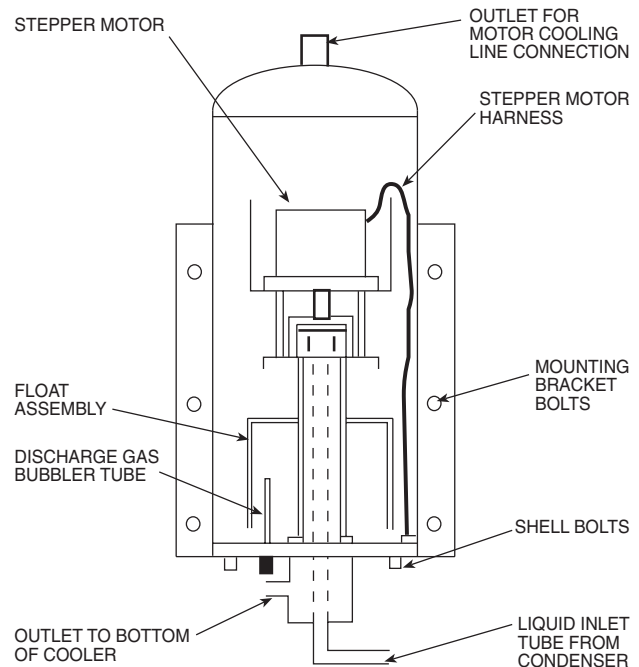

Fig. 14 — 30GX,HX Cutaway View of Economizer Assembly
INSPECTING/OPENING ECONOMIZERS — To check the physical operation of an economizer (see Fig. 14), the following steps must be performed:
- a. Verify that float assembly (see cross section view in Fig. 14 moves up and down freely. It should take only a minimal force (less than one pound) to move the float and there should be no binding.